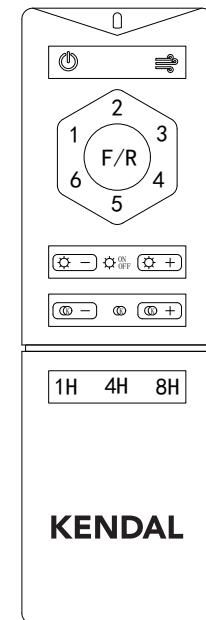

Figure 23
A. Press the "OFF" button to turn off the fan (*this button is only used to turn off the fan, it cannot start the fan, and it will not turn off the LED lamp Fig.23)